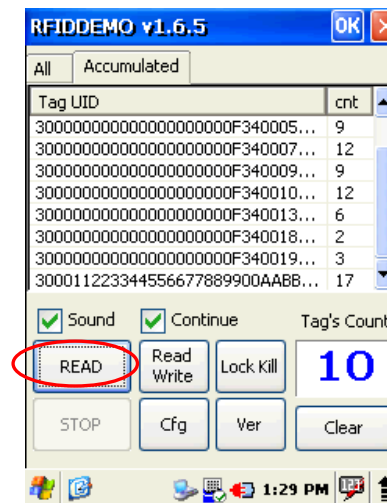
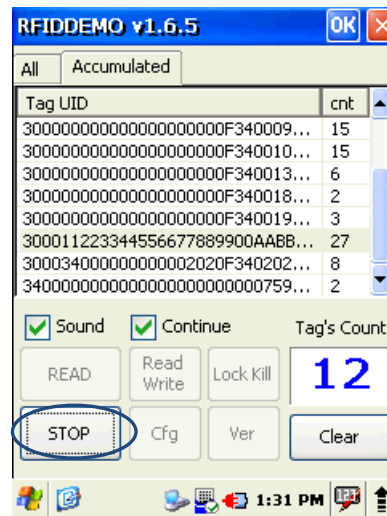

Fig.2. Start Screen in case of normal driving
Fig.3. Shape that the tag is read.
- If the screen like Fig. 2 appears after around 2 seconds, it means that the reader is normally operated.
- When you want read multiple or single tags without any setting change, its reading starts if you click a [READ] button inside Fig.2 READ. If you click Fig.3, STOP its reading stops.